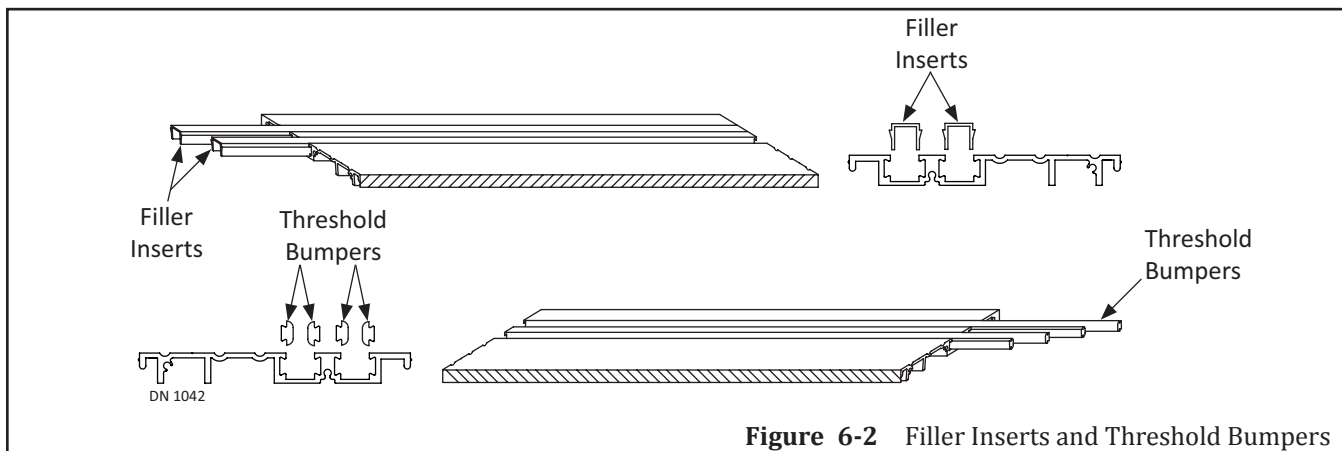

Figure 6-2 Filler Inserts and Threshold Bumpers
2. If not installed, obtain the Filler Inserts and Bumpers provided by NABCO and cut to specifications. Please see Figure 6-2.